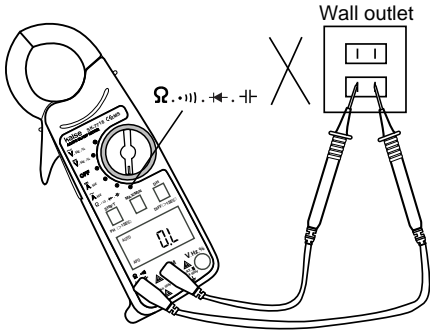

Fig. 6
•||| . ← . -| position. Refer to the Figure 6.